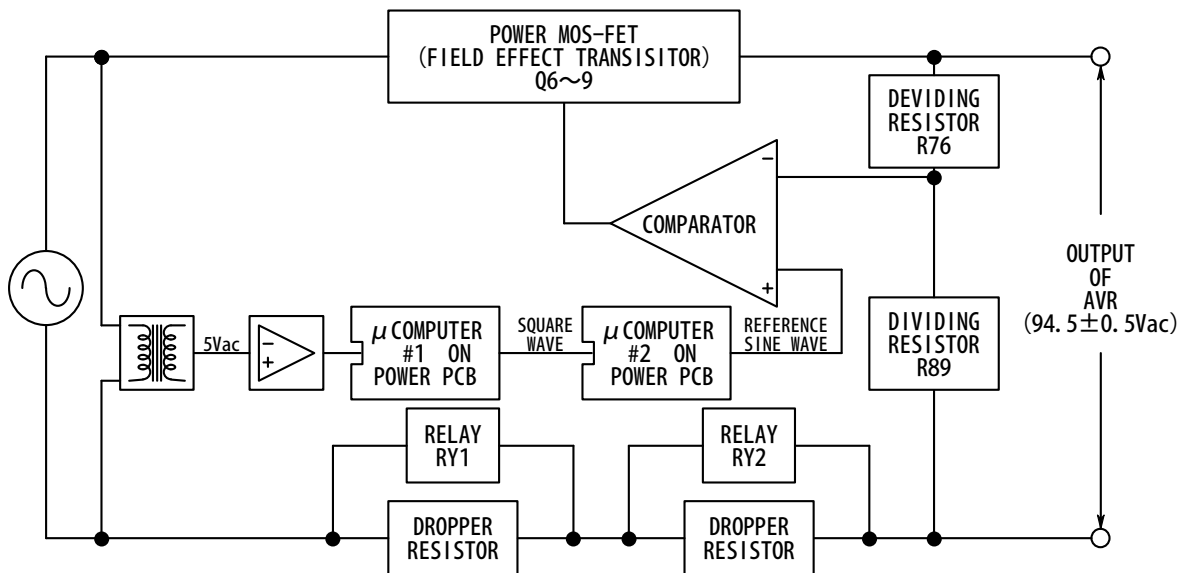

FIGURE 3. Block diagram of AVR circuit
2. Block diagram of AVR circuit is described in FIGURE 3.